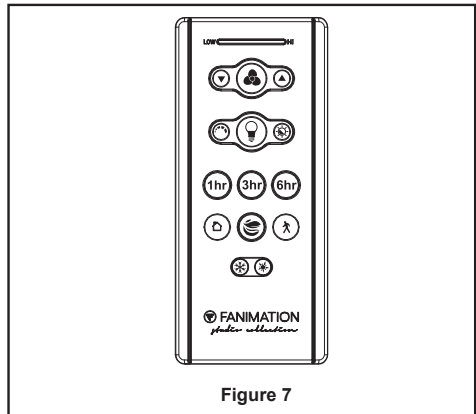

Figure 7
- ☐ 7. Remote functions: (Figure 7)